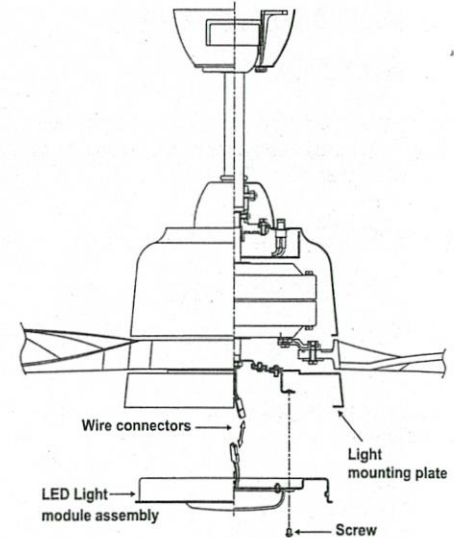

Figure 15
Step 2. While holding the LED light module assembly under the fan motor assembly, fasten the 2-pin wire connections: (Fig. 15)
Step 3. Place the key holes on the LED light module assembly over the 2 screws previously loosened on the light mounting plate, turn the LED light module assembly until it locks in place at the narrow section of the key holes. Secure by tightening the 2 screws previously loosened and the one previously removed. (Fig. 15)